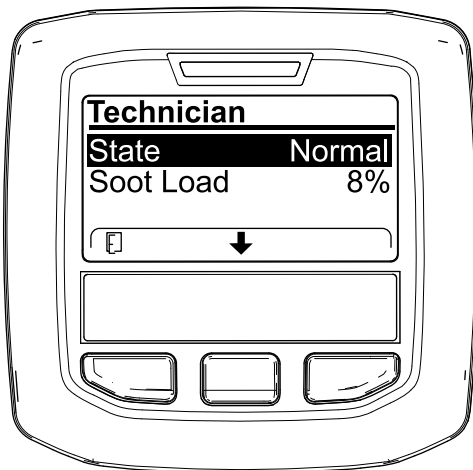

Figure 45
- Use the DPF operation table to understand the current state of DPF operation (Figure 45).